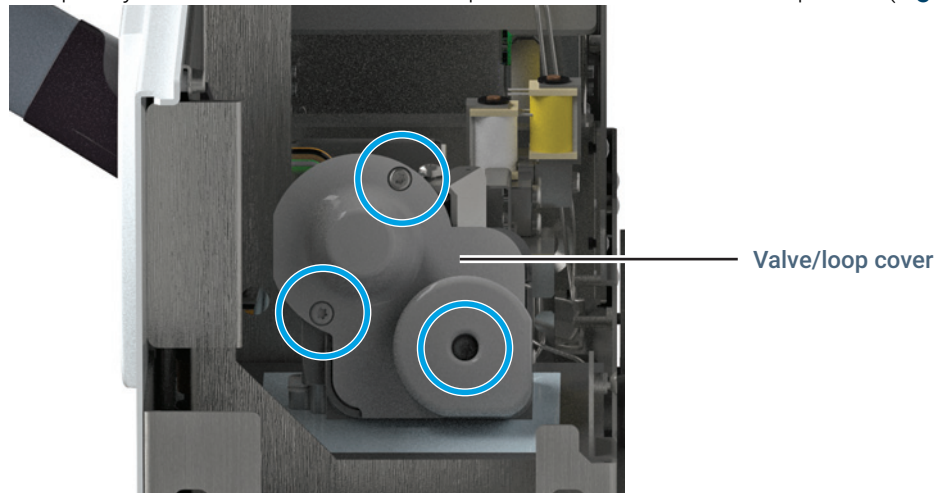

Figure 9. Valve/loop cover
- 4 Completely loosen the three T-20 Torx captive screws on the valve/loop cover (**Figure 9**).